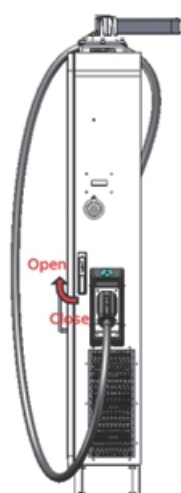

Figure 6
1. Unlock the side door lock with the key and turn the lock handle clockwise to open the front door, see Figure 6.